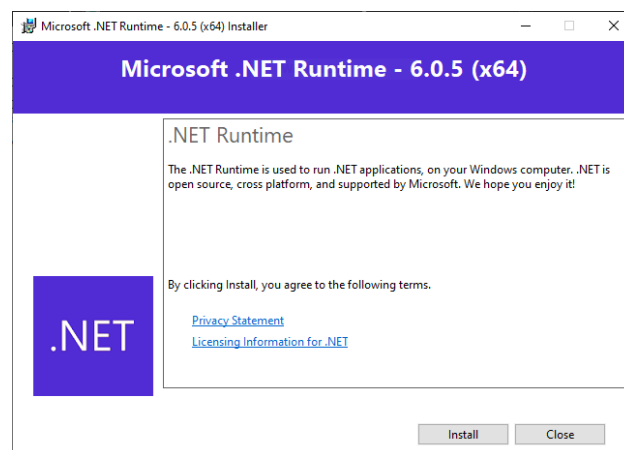
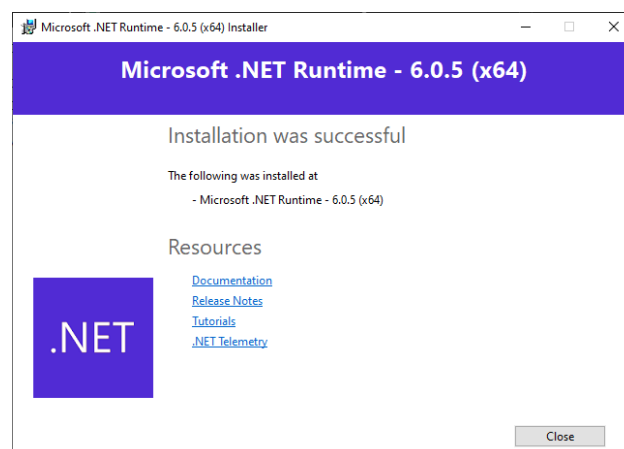

Figure 12: .NET runtime installation window.
Figure 13: .NET runtime successful installation window.
6. (Optional) In case the .NET runtime needs to be installed, click *Install* in the .NET runtime installation window (Fig.12). In case of successful installation, the window shown in Fig.13 will appear.